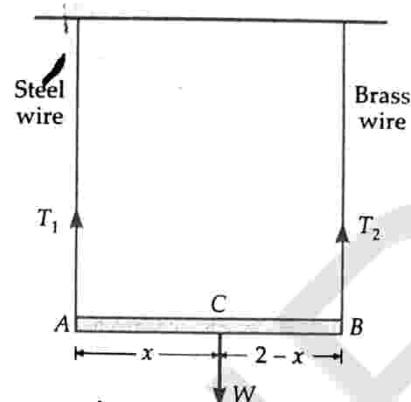

Fig. 9.29
**Solution.** The situation is shown in Fig. 9.29. Let  $AB$  be the rod of length  $2 \text{ m}$ . Suppose a weight  $W$  is hung at  $C$  at distance  $x$  from  $A$ . Let  $T_1$  and  $T_2$  be the tensions in the steel and brass rods respectively.